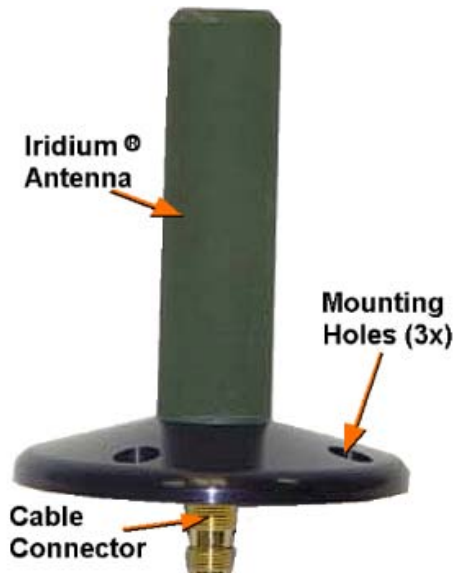
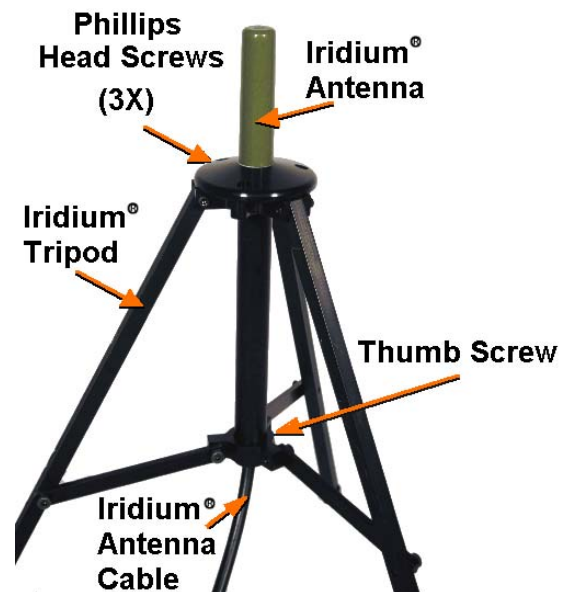

Figure 4. Iridium[®] Antenna
Figure 5. Iridium[®] Tripod with Antenna
- (1) Route one end of 50 foot antenna cable through bottom of center pole of the Iridium® Tripod.
- (2) Remove protective red cap from antenna connector and retain for future use in packing antenna into transit cases. Attach cable end to the Iridium[®] Antenna.
- (3) Install Iridium[®] Antenna (see Figure 4) onto Iridium[®] Tripod using the three Phillips flathead screws provided (see Figure 5).
- (4) Fully extend Iridium[®] Tripod legs and secure in place by tightening thumb screw finger tight (see Figure 5).